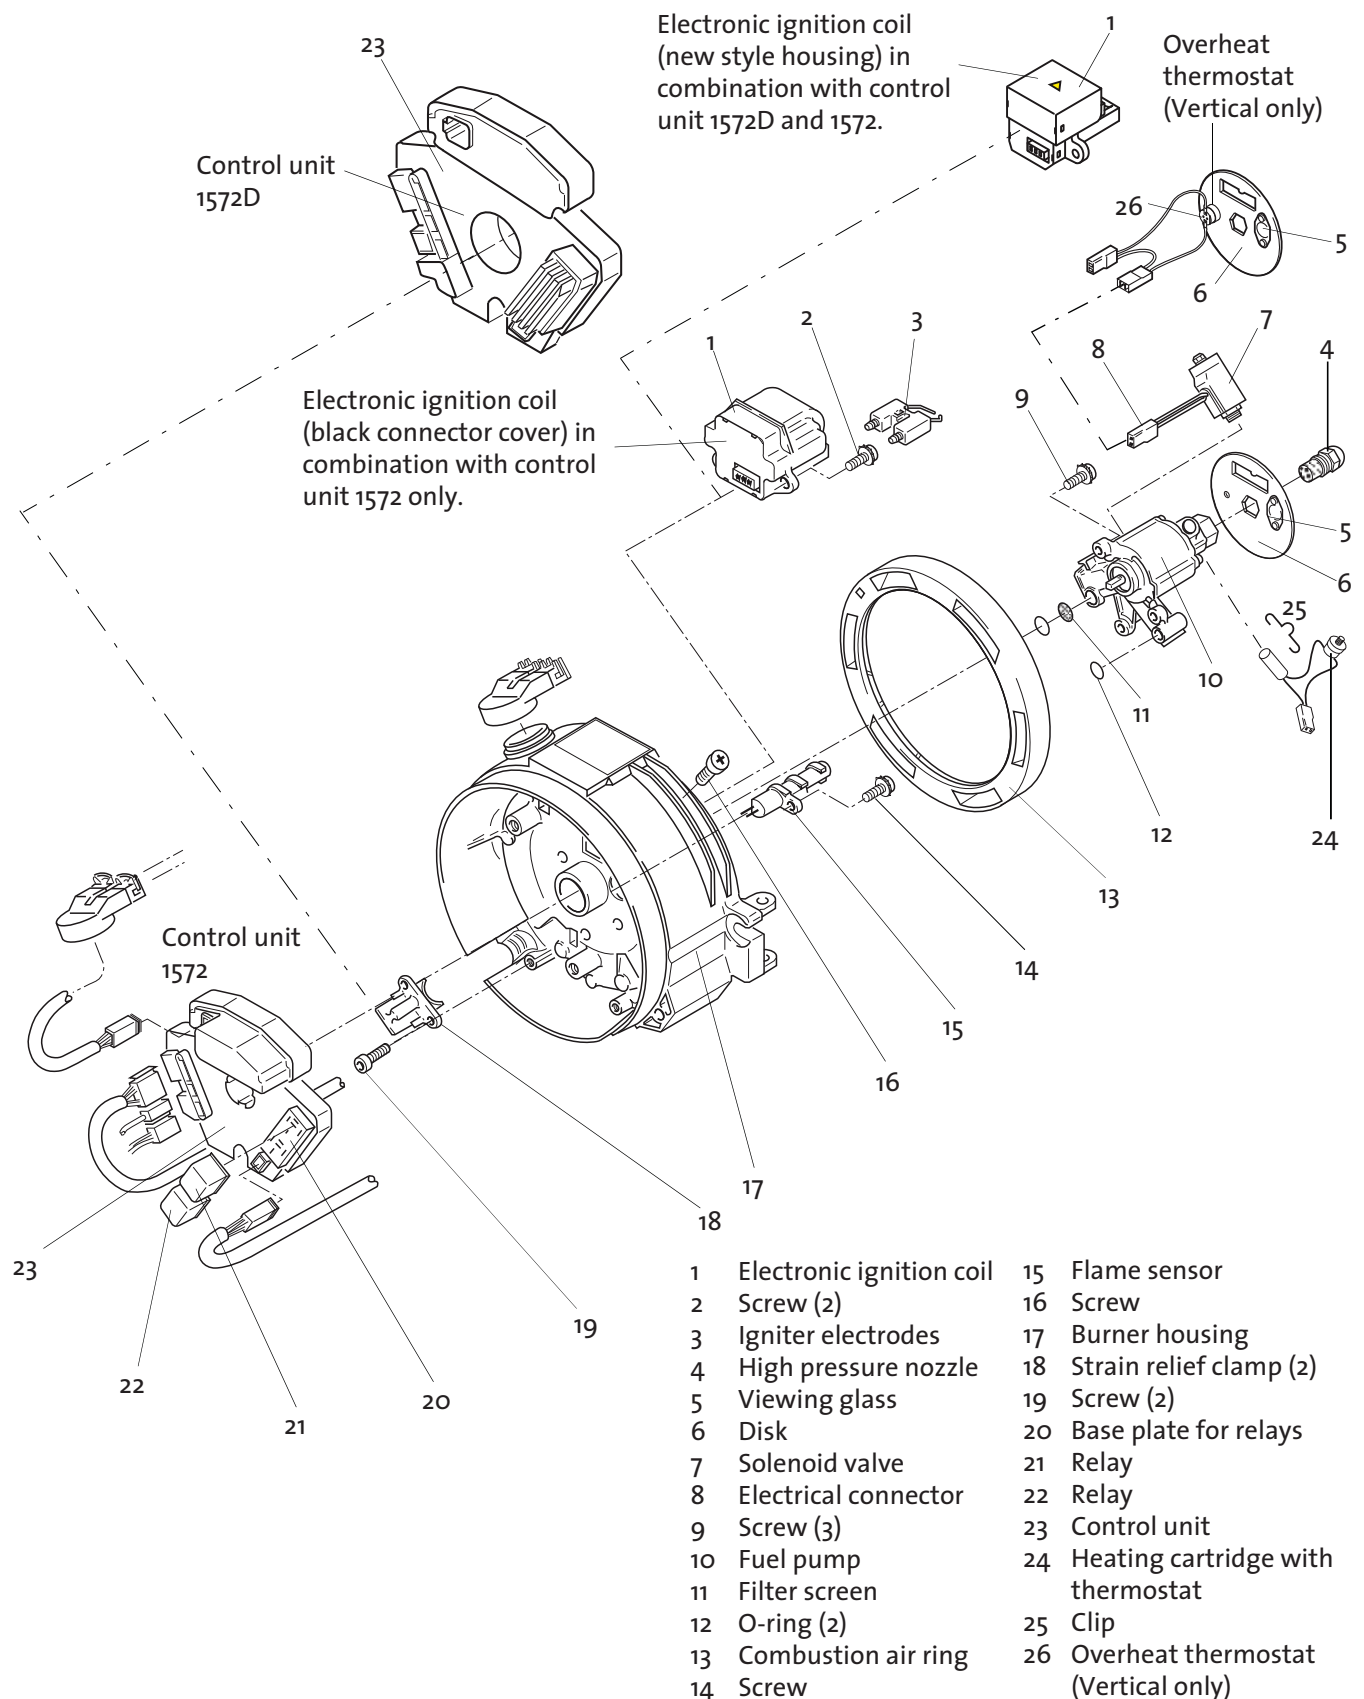

Figure 13: Electronic Ignition Coil and Flame Sensor, Replacement (Sheet 2 of 2)
1. Locate electronic ignition coil (1, Fig. 13) for installation, plug in making correct electrical connections and secure with screws (2) and lock washers.
2. Tighten screws (2) to 5 Nm + 1 Nm.
3. Position disk (6) and align.
4. Plug in igniter electrodes (3).
1. Position flame sensor (15, Fig. 13) for installation, plug in to make correct electrical connections and secure with screw (14) and lock washer.
2. Tighten screw (14) to 5 Nm + 1 Nm.